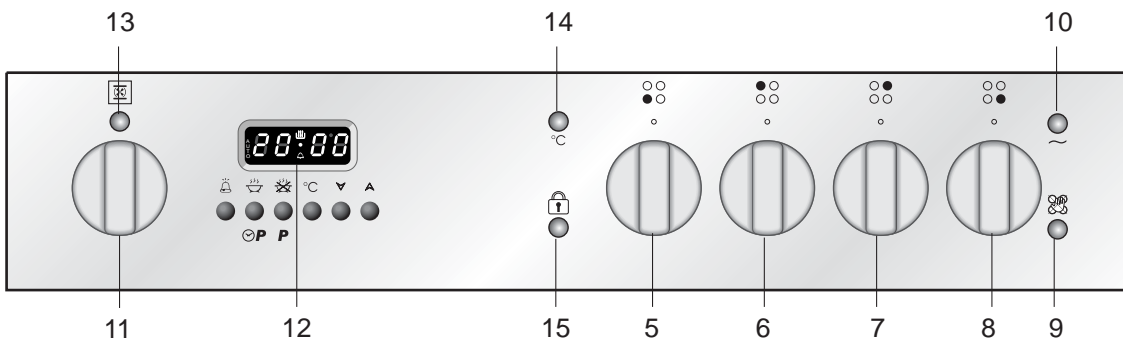

Fig. 1.2
When the ceramic hob is working, the pilot light in the control panel (pos. 10 of fig. 1.2) will be on.
When the hob temperature is above 140 °F (60 °C), the corresponding warning light in the control panel (fig. 2.6 - pos. 9 of fig. 1.2) will come on to indicate that the hob is hot. This light will stay on even after the hob has been switched off to indicate that the hob is still hot.